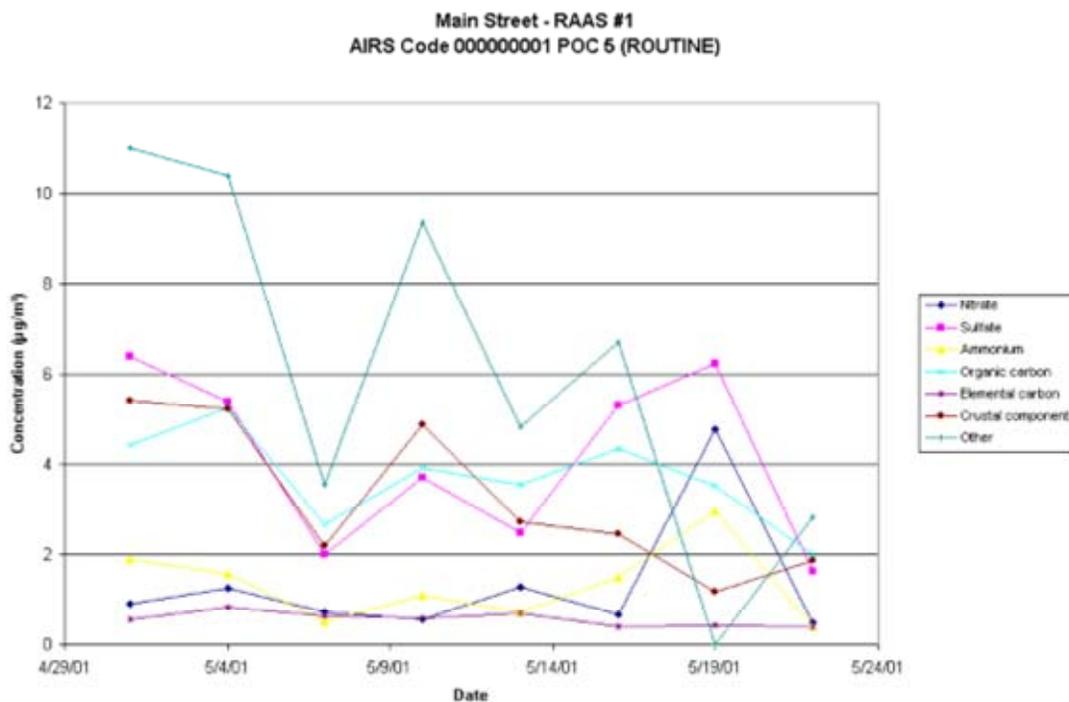

Figure 5-8. XY-line plot generated by the species distributions analysis.
- XY-Line Plot (Figure 5-8). Data points are plotted on the x- and y-axes, showing relationships among the numeric values and possible clustering of data. Data points are connected by lines.